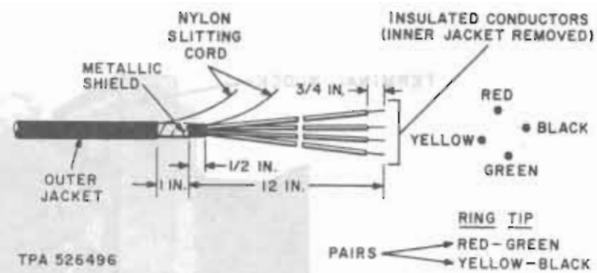

Fig. 21—Prepared Service Wire—K-Type Closure
11.01 Remove all unnecessary slack from the service wire. Mark the sheath of the service wire about 1/4-inch below the AT-7796X connector (Fig. 20). Prepare the service wire as illustrated in Fig. 21.